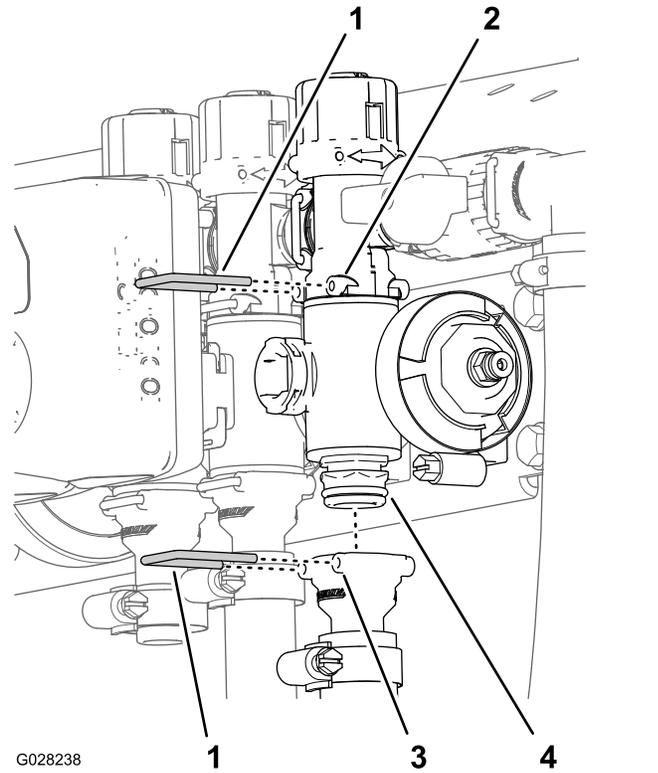

Figure 75
2. Remove the retainers that secure the outlet fitting to the section-valve manifold and the valve manifold to the bypass fitting (Figure 75).